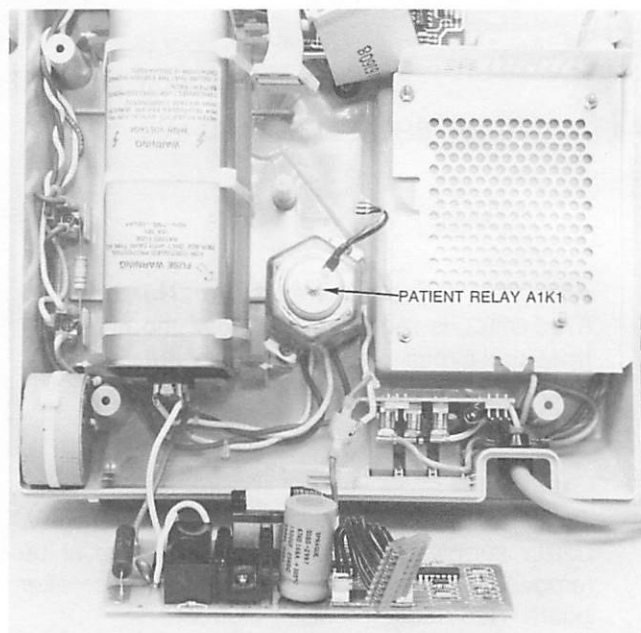

Figure 4-5. Defibrillator Charger Board Removal.
1. The defibrillator charger board (A5) is mounted vertically at the rear of the unit behind the H.V. capacitor. See Figure 4-5.
2. Remove, but do not disconnect, the defibrillator H.V. charger board (A5). See Figure 4-5.